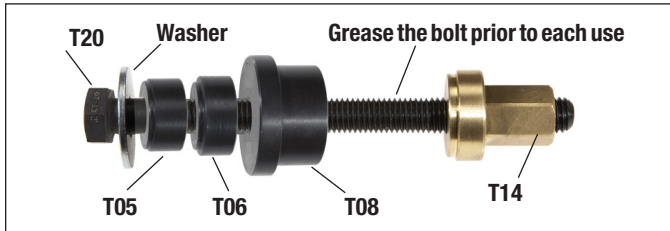
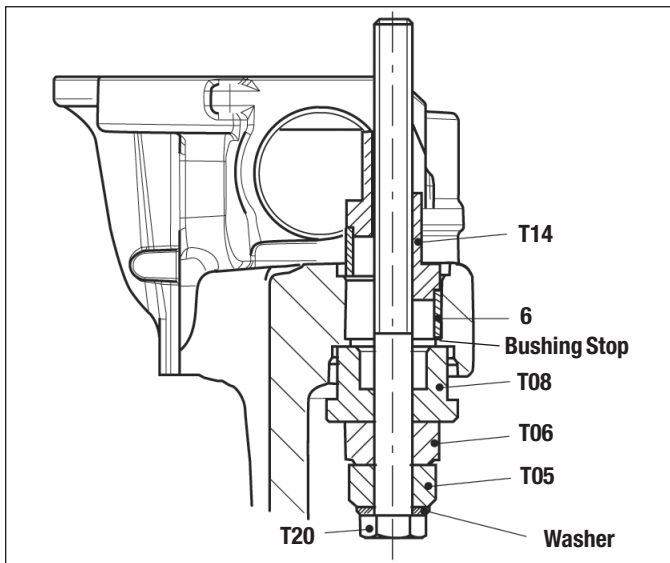

Figure 80 – Short Guide Pin Bushing Installation Tool
Figure 81 – Guide Pin Bushing Installation
5.6.27 Use the tool combination shown in Figure 80 to draw the bushing (6) into the caliper. Also see Figure 81, to see the orientation (with tool T14 at the top). Hand tighten the nut (T14) into position. Then tighten the bolt (T20) using a box end wrench or socket to draw the bushing (6) into the caliper until the bushing (6) contacts the machined step in the bore. Remove the tool.